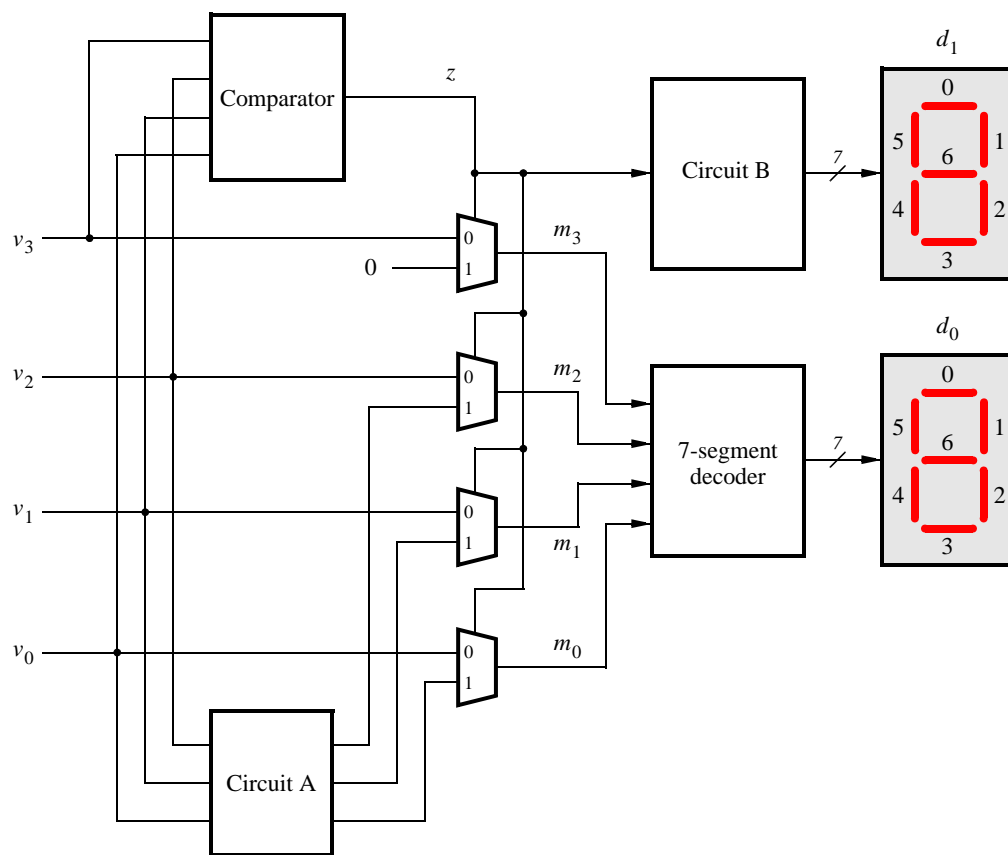

Figure 1: Partial design of the binary-to-decimal conversion circuit.
You are to design a circuit that converts a four-bit binary number $V = v_3v_2v_1v_0$ into its two-digit decimal equivalent $D = d_1d_0$. Table 1 shows the required output values. A partial design of this circuit is given in Figure 1. It includes a comparator that checks when the value of V is greater than 9, and uses the output of this comparator in the control of the 7-segment displays. You are to complete the design of this circuit by creating a Verilog module which includes the comparator, multiplexers, and circuit *A* (do not include circuit *B* or the 7-segment decoder at this point). Your Verilog module should have the four-bit input V , the four-bit output M and the output z . The intent of this exercise is to use simple Verilog **assign** statements to specify the required logic functions using Boolean expressions. Your Verilog code should not include any **if-else**, **case**, or similar statements.
3. Augment your Verilog code to include circuit *B* in Figure 1 as well as the 7-segment decoder. Change the inputs and outputs of your code to use switches SW_{3-0} on the DE0 board to represent the binary number V , and the displays $HEX1$ and $HEX0$ to show the values of decimal digits d_1 and d_0 . Make sure to include in your project the required pin assignments for the DE0 board.